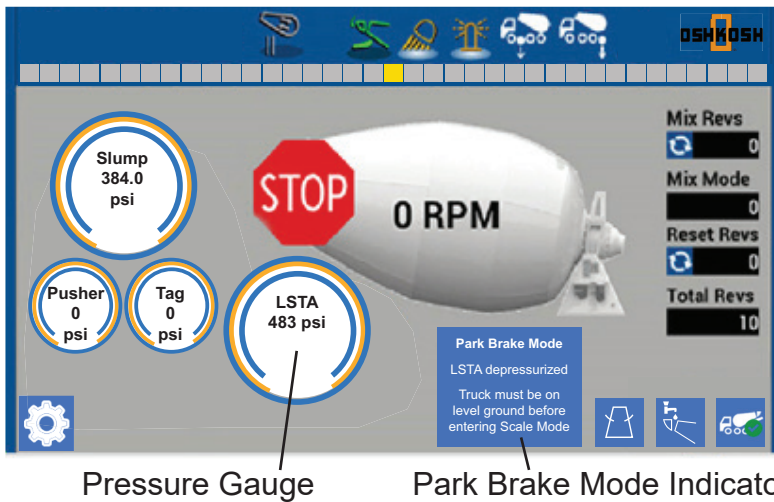

Figure 3 - Park Brake Mode
- Added Park Brake Mode indicator to the overhead display to show the LSTA is de-pressurized when the parking brake is engaged, see Figure 3.